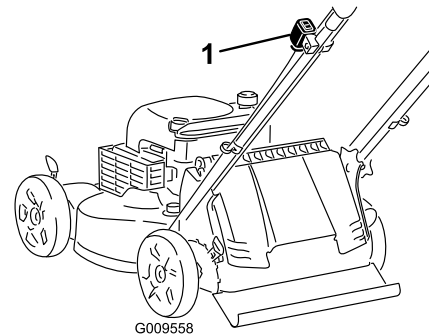

Figure 11
1. Push the ignition toggle switch to the On ("I") position (Figure 11).